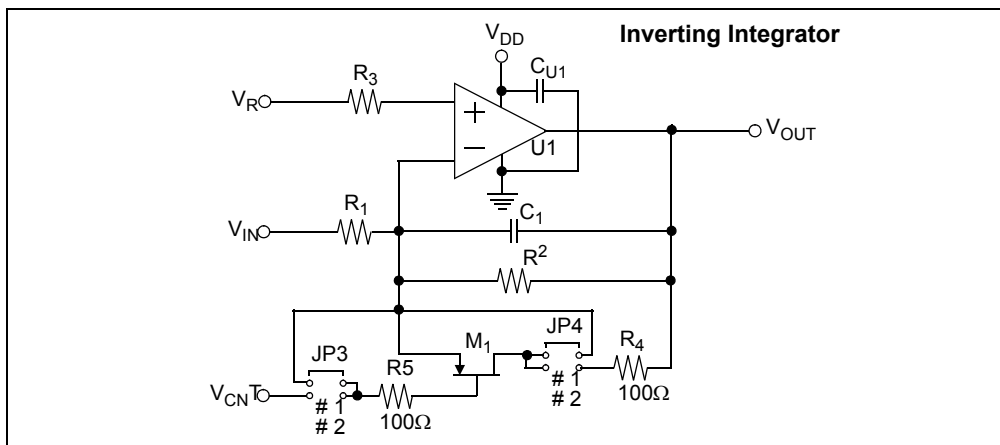

FIGURE 2-5: Inverting Integrator Block.
- Figure 2-5 shows the circuit diagram for the inverting integrator block.